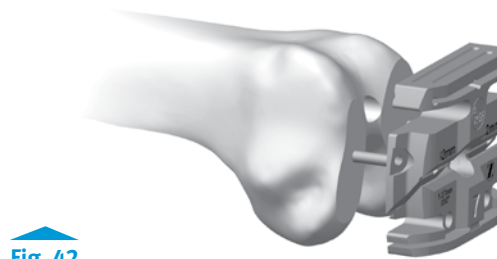
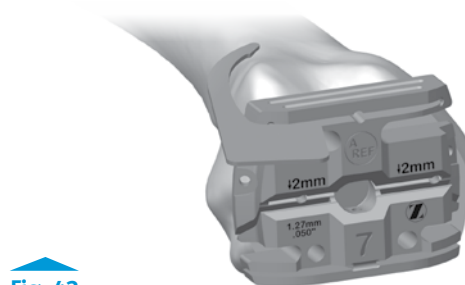

Fig. 42
Fig. 43
- By hand, place the 4-in-1 Cut Guide on the femur by aligning the 2 pins on the back of the guide with the previously drilled positioning holes (Fig. 42). Impact the face of the guide until the guide is flush with the femur. Place the Resection Guide through the anterior slot of the cut guide to ensure the desired anterior resection (Fig. 43). If inadequate bone will be removed from the anterior cortex, drill through the two holes on the face of the cut guide (Fig. 44a). Use the Slaphammer to axially remove the cut guide (Fig. 45a & 45b). Place the next smaller-sized femoral cut guide on the femur in the newly drilled “posteriorized” drill holes (Fig. 44a & 44b). Verify the anterior and posterior resection levels with the resection guide to assure that the desired resections will be attained. If too much posterior bone will be resected the original femoral cut guide can be used.